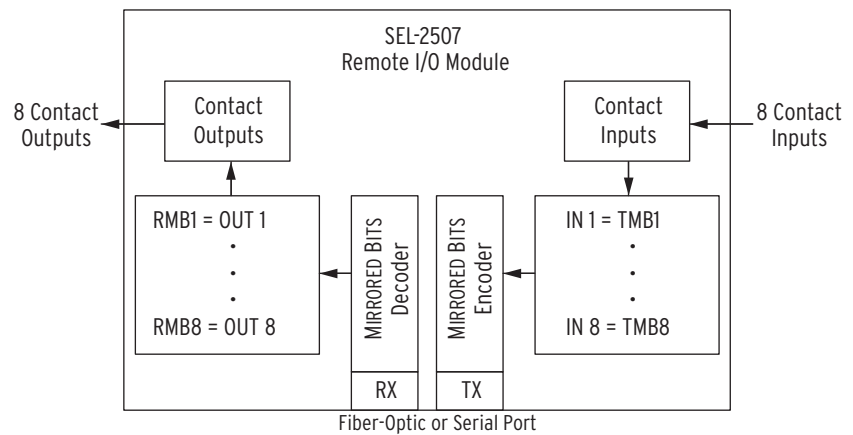

Figure 11 SEL-2507 Functional Block Diagram
Figure 11 shows the functional block diagram of the SEL-2507. There is a MIRRORING BITS decoder associated with the receive (RX) port and an encoder for the transmit (TX) port. The decoder receives MIRRORING BITS messages, checks that the receive address matches that set by switches 3–4, checks for data message errors, and then decodes each message. If a Receive MIRRORING BITS (RMB) is a logical one for the number of message frames set by switches 5–8, the SEL-2507 asserts the corresponding output contact.